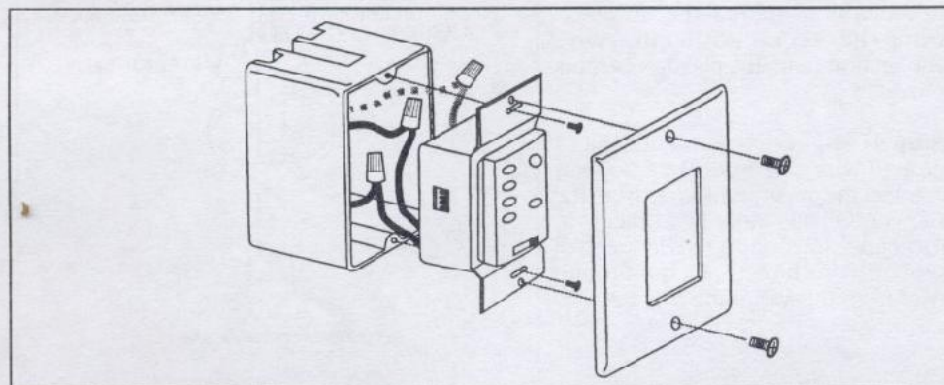

FIG 14
Step 3. (Fig. 14). Carefully tuck the wire connectors inside the junction box. Secure the wall transmitter with the two screws provided. Attach the decorator faceplate over the wall transmitter and secure with the two screws provided.